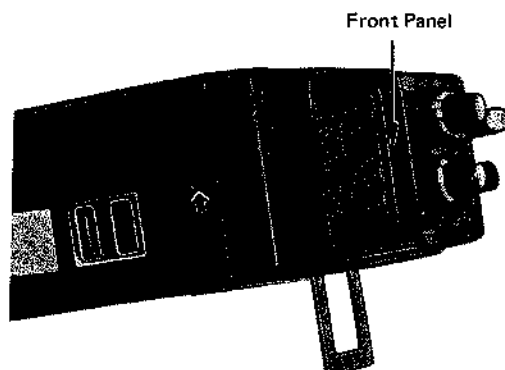
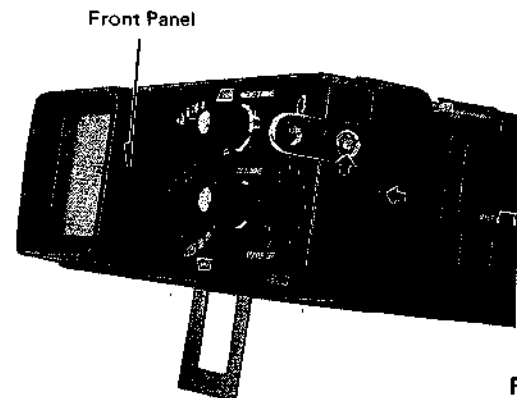
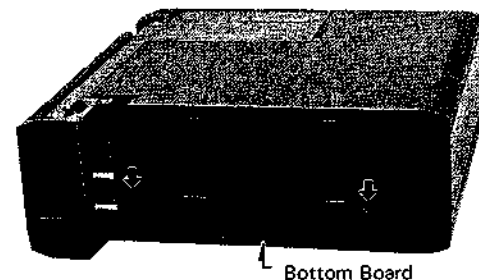

Fig. 1
Fig. 2
Fig. 3
2. Unscrew 3 screws indicated in Fig. 1 and Fig. 2 and pull the front panel forward.
2. After removing the battery case, unscrew 2 screws indicated in Fig. 3.
1. After removing the battery case, unscrew 4 screws indicated in Fig. 1, Fig. 2 and Fig. 3. (But there is no need to unscrew a screw fastened the metal fitting indicated in Fig. 2).